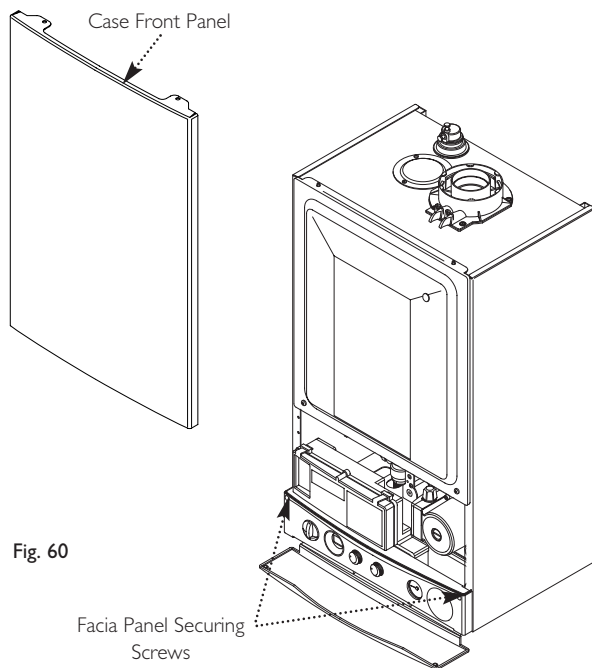

Fig. 60
5. Slacken the screws securing the fascia panel. Lift the outercase panel so that its securing tabs are clear of the fascia. Remove the panel, allowing the fascia to hinge down (Fig. 60).